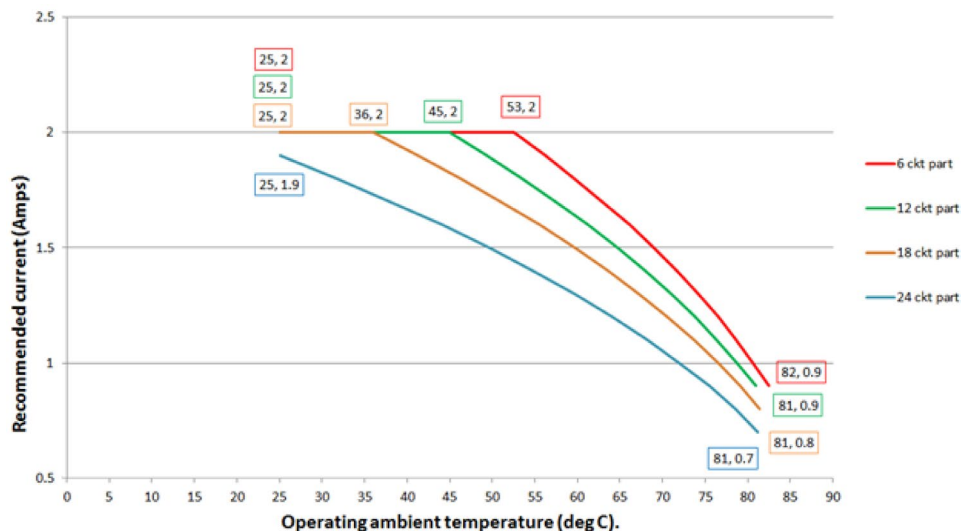

Figure 1: Recommended current levels for AC6023
4. When multiple circuits are to be used to carry current, the total current needs to be verified against the **Figure 1** by using the following steps.
- a. Using the number of circuits (6, 12, 18 or 24) that are present in the slip ring select the appropriate curve from **Figure 1**.
- For the AC6023-24 being operated at 50°C, the maximum current that can be applied to each circuit (from Figure 1) is 1.5 Amperes.